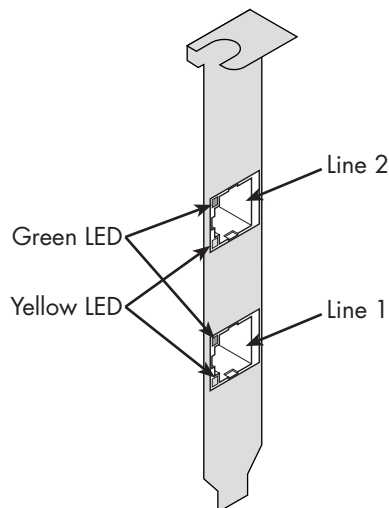

Figure 6. PT1 & PT2 Connector Locations
The position of the PRI connectors is shown in figure 6.
9. Connect the PRI line(s) to the adapter. If the adapter is a RAS PT1, only Line 1 (see figure 6 on page 32) is active. If the adapter is a RAS PT2, two PRI lines are supported and both connectors may be used.